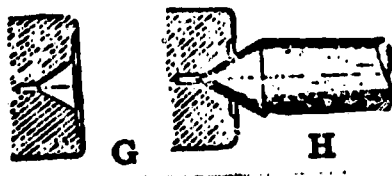

FIGURE J-3
12. Move the tailstock handwheel in until the center drill is into the end of the stock as far as shown in figure J-3.